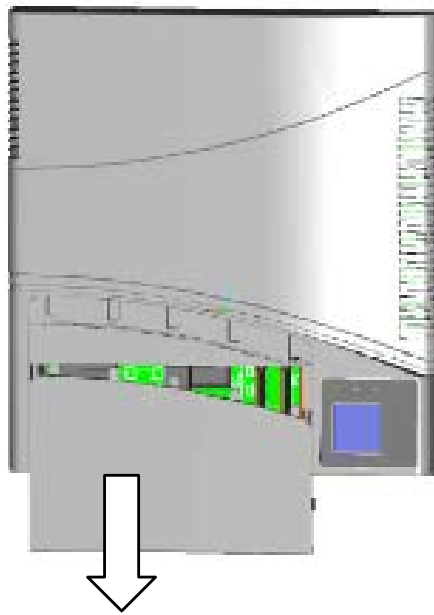

Fig. 6 How to open the panel
- 1) Open the panel located in the lower part of AURORA, using the TX10 tap wrench provided to loosen the screw which locks the panel, making it slide downwards (Fig. 6). Once you have removed the panel, at the centre of the uncovered area, you will see a hole for the fixing screw.